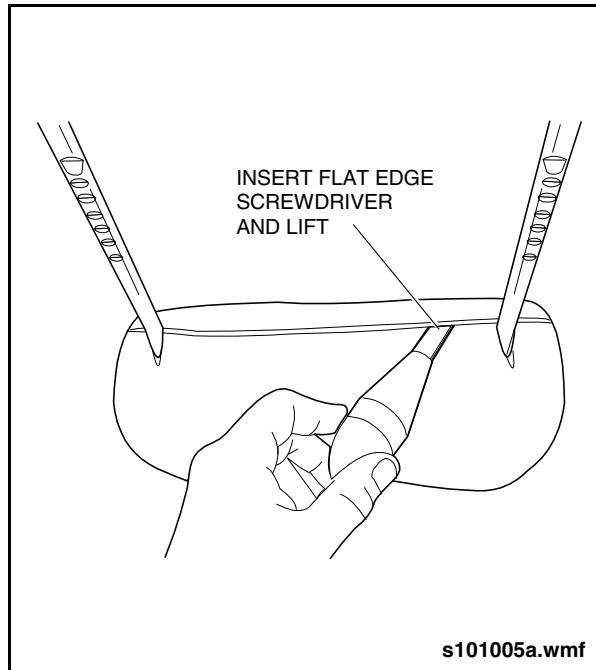

Fig. 17-8: Headrest Cover
1. To remove headrest cover, place a flat edge screwdriver in J-retainer seam and lift up to release and gently pull insert out. Remove cover with foam from headrest frame. Separate foam pad from headrest cover. See "Fig. 17-8: Headrest Cover" on page 8.